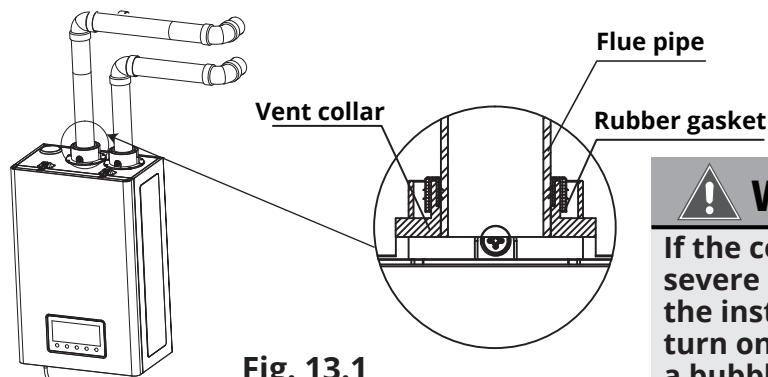

Fig. 13.1
2. Insert the pipe into the vent collar to start the vent run. Make sure to completely slide the vent into the collar until the end makes contact with the bottom of the socket. (See Fig. 13.1)